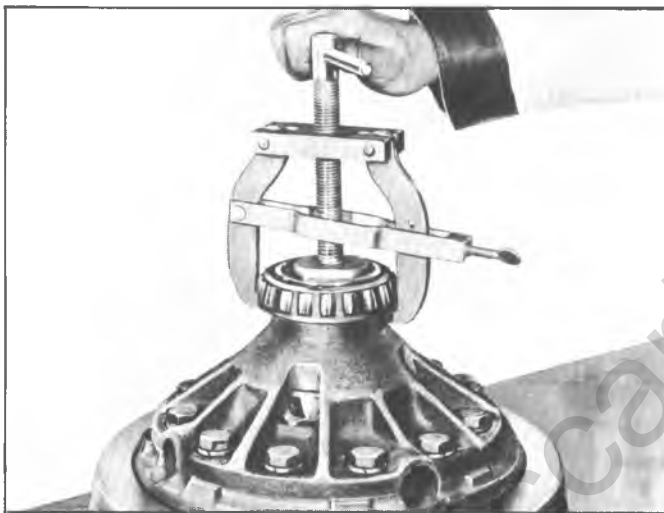

Fig. 7G—Differential Bearing Removal
1. Install Tool J-8107 making sure puller legs are fitted securely in notches in case and tighten retaining yoke as shown in Figure 7G.